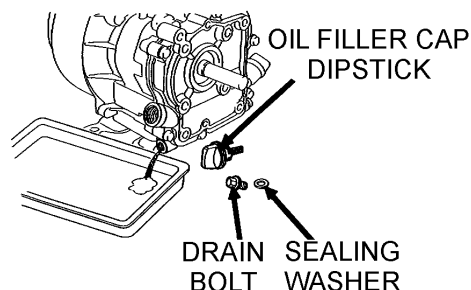

Figure 18. Engine Oil (Draining)
1. Drain the engine oil when the oil is **warm** as shown in Figure 18.